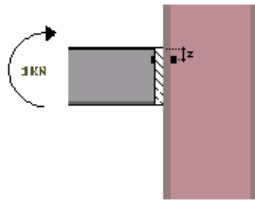

FIG. 8.3
**NOTE :** A flash end Plate connection with only one bolt row can resist positive moments because the position of the single bolt row is over the "compressed flange" of the beam. Of course we must expect very small design moment resistance (at least in typical connections) because of the small lever arm  $Z$  (fig.8.3). For the particular example the values of design resistance moment is  $M_{Rd}=4.81\text{kNm}$  and the value for design resistance in shear is  $V_{Rd}=57.90\text{kN}$ .